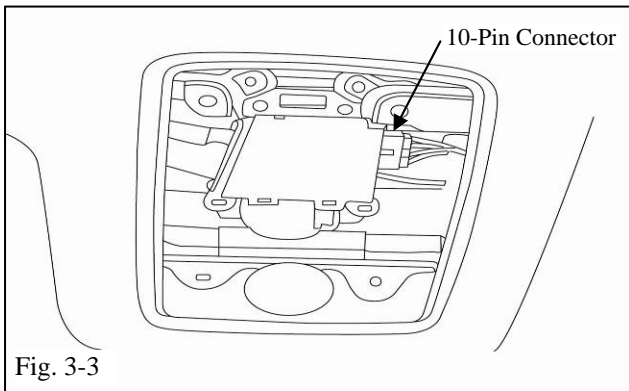

Fig. 3-3
- (c) Locate and disconnect the 10-pin white connector from the sunroof motor in the overhead console area. (Fig. 3-3)